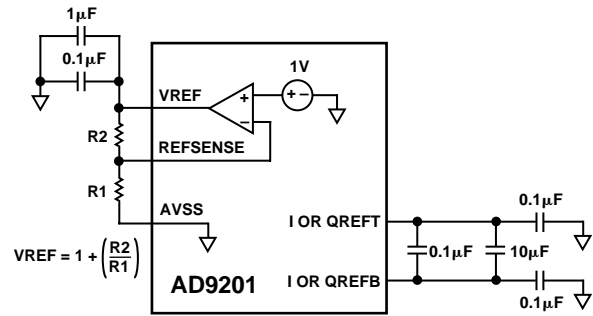

Figure 24. Programmable Reference
**Externally Set Voltage Mode (Figure 24)**—this mode uses the on-chip reference, but scales the exact reference level through the use of an external resistor divider network. VREF is wired to the top of the network, with the REFSENSE wired to the tap point in the resistor divider. The reference level (and input full scale) will be equal to  $1 V \times (R1 + R2)/R1$ . This method can be used for voltage levels from 0.7 V to 2.5 V.